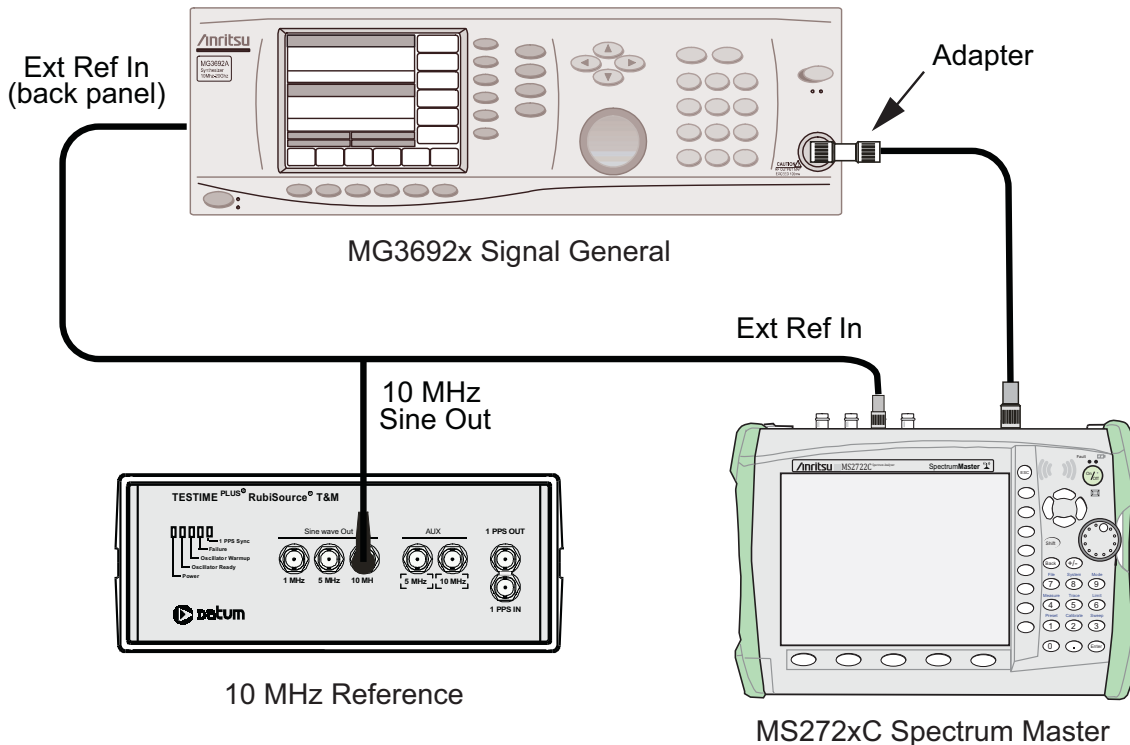

Figure 2-1. Resolution Bandwidth Accuracy Test Setup
1. Connect the external 10 MHz Reference both to the MG3692x or MG3695C Synthesized Signal Generator and to the Spectrum Master MS272xC, as shown in Figure 2-1.
2. Set the MS272xC to Spectrum Analyzer mode and then Preset the instrument. Press the **Shift** key, the **Sweep** (3) key, **Sweep Mode** submenu key and then the **Performance** submenu key.
8. Under the Press the Shift **Measure** menu (**Shift** (4), press **OCC BW** and set it to On.